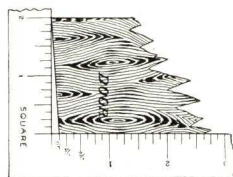

Fig. 1
**BEVELLED FRONT LOCKS**—The regular bevel is  $\frac{1}{8}$  in. in 2 in. All other bevels are special and an extra charge will be made for same. The illustration (Fig. 1) shows how to determine the bevel of a door. Bevelled Front Locks are not reversible and orders should specify the hand of lock wanted (see preceding page).